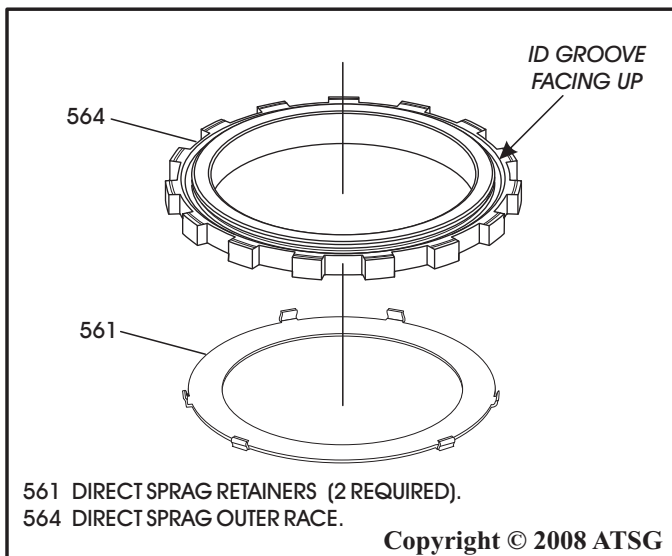

Figure 148
4. Install one direct sprag retainer on bottom of direct sprag outer race, as shown in Figure 148.